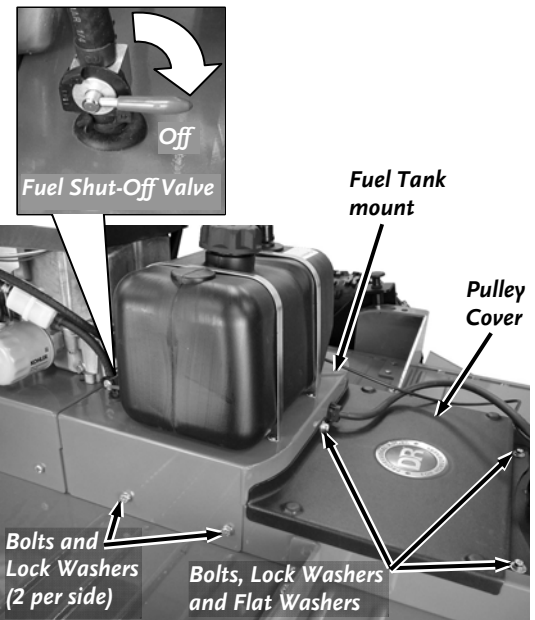

Figure 21
1. Turn the Fuel Shut-Off Valve to the OFF position (**Figure 21**).